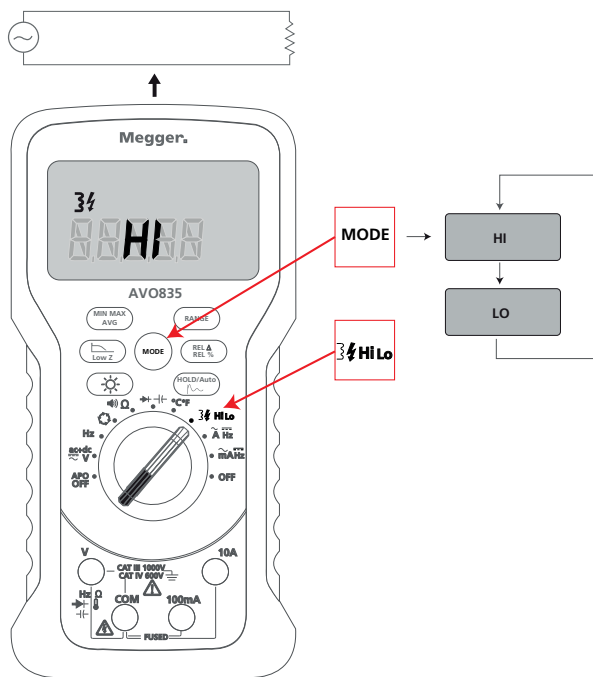

Fig 11: AC voltage Detection Set-up
1. Set-up the instrument as shown in Fig 11.